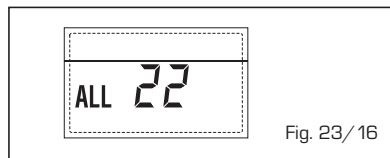

Fig. 23/16
**- ANOMALIA AVARIA SONDA IMPULSÃO SEGUNDA ZONA MISTURADA “ALL 23” (fig. 23/17)**